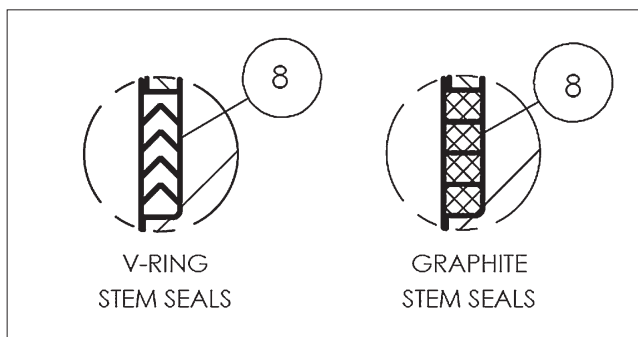

Figure 9. Stem Seal Orientation
8. Insert the stem (4) through the insert end of the body (1), being careful not to scratch the stem sealing surface; and press it gently up into the stem bore until resistance is felt from the thrust bearing. Holding the stem in place from the bottom and insert the stem seals (8) (see **Figure 9**) for proper v-ring orientation), over the stem (4).
10. Insert the stem subassembly into the *Emission-Pak* housing (101). Pull the stem outward to seat the thrust bearings. Install one set of stem seals (104) and lantern ring/spacer (103) over the stem as shown in (**Figure 9**). For optimal performance, pre-compress the first set of stem seals.
11. Install the compression ring (111) and compression plate (20) over the stem. Using stud nut (30), apply the torque value listed in (**Table 2**).
13. Install the top set of stem seals (104) over the stem as shown in (**Figure 9**).
14. Hold the stem in place and slide the compression ring (111) and compression plate (20) over the stem (4) and studs (29).